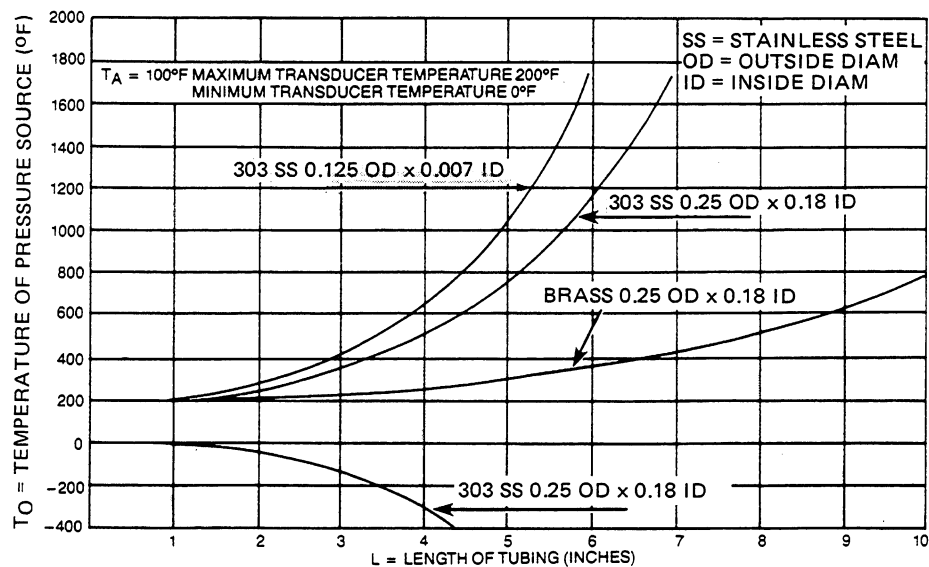

Fig. 1 Tubing length to isolate transducer from temperature source.
The manufacturer provides a graph of "Temperature of Pressure Source" versus "Tubing Length" to help do this. (See Figure 1.) This graph helps technicians choose a transducer to meet their special needs.
**NOTE:** Example A and Figure 1 represent a problem to be solved with the help of graphical data. This problem is typical of those that engineers and technicians solve daily. Take time to go through Example A and ensure that your students can "read" and interpret the graphical data in Figure 1.
When these conditions are satisfied, you can use the graph in Figure 1 to solve the problem in Example A.
**Solution:** Use the graph given in Figure 1.
- The hydraulic oil temperature is  $600^\circ\text{F}$ . Find this value as " $T_o$ " on the left side of the graph in Figure 1.